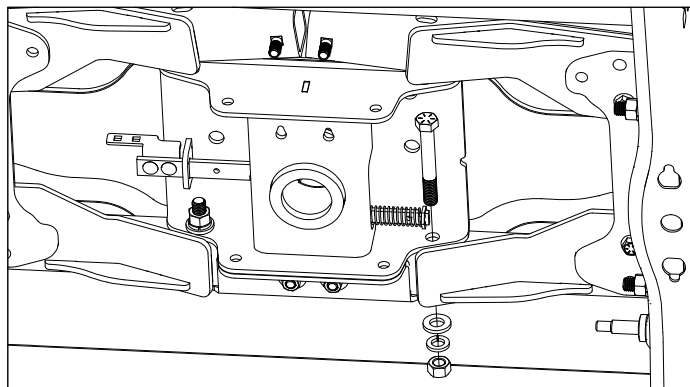

Figure D3: View looking up under the truck bed.
- 3. Place second center section cap screw.** Place a 5/8" x 4-1/2" cap screw into the hole on the passenger side of the center section from the inside of the center section toward the front of the truck, as shown in Figure D3. Loosely secure the cap screw with a 5/8" flat washer, lock washer, and nut.